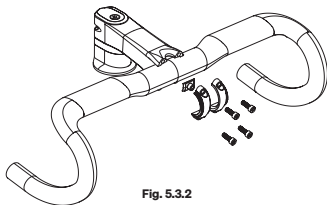

Fig. 5.3.2
- 2 • Install the aluminium nut inside the 2-piece faceplate (Fig. 5.3.2);